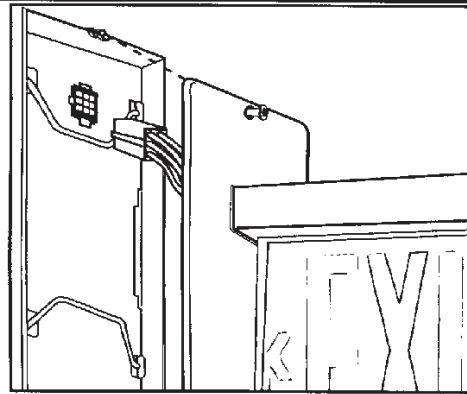

Fig. 4
Step 6. Connect nine position mate-n-lock attached to trim assembly to mating connector to housing. (See Fig. 4)
- Step 9.** End Mount Units Only - Secure face to housing by tightening face plate to mounting screw to housing located at top of face plate. (See Fig. 4 and 5)